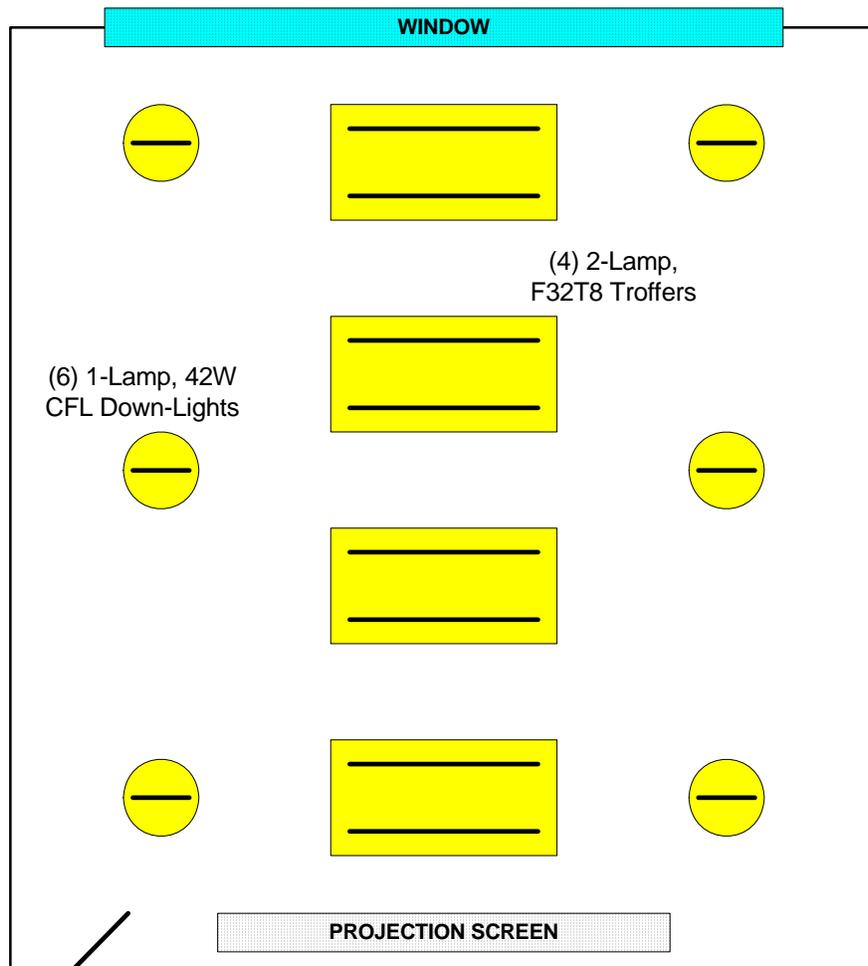

Fig. 1
A small conference room (Fig. 1) with ten lighting fixtures, comprising four (4) two-lamp F32T8 troffers and six (6) one-lamp, 42W CFL recessed down-lights.